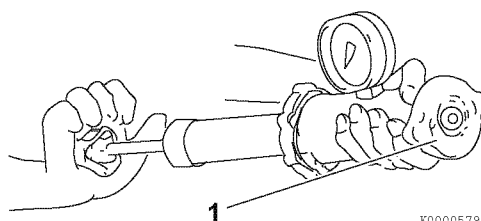

Fig.40-20
- 1 - Check for proper operation of the radiator cap. Install the radiator cap (1, Fig.40-20) on a cooling system tester.